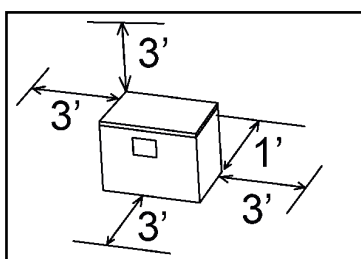

Figure 4. Compressor Unit Clearance
- Clearance around the unit for service is illustrated in Figure 4. However, local codes and applicable regulations take precedence.
- SD(A) Compressor Unit must be placed in an environment in which the surrounding air temperature does not drop below 40°F.
- If the compressor unit or other refrigerant-containing system components are located indoors, they shall be in a location which (1) is an *unoccupied space*, or (2) is served by the circulating air system, or (3) provides 280 cu. ft. of open space per nominal ton of rated system capacity. The **2012 International Mechanical Code** defines residential occupancy as including permanent provisions for living, sleeping, eating cooking, and sanitation. Consult local code authorities to define *unoccupied space* for the specific installation.